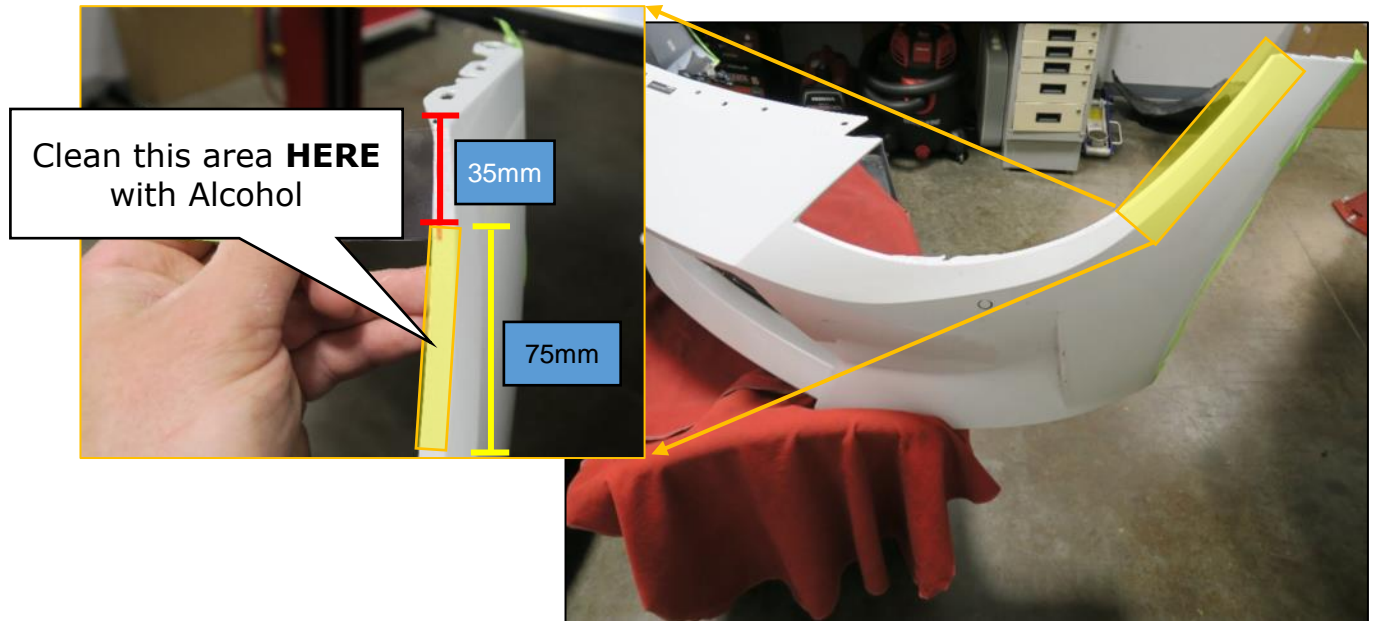

Figure 34
31. Measure 35mm from the outside edge of the front bumper (Figure 34).
- Using the Alcohol prep pad, clean the 75mm area shown in Figure 34